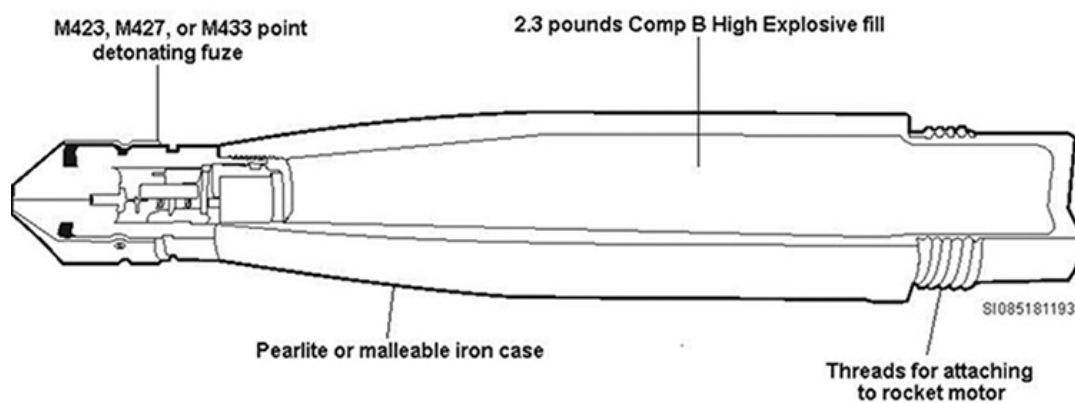
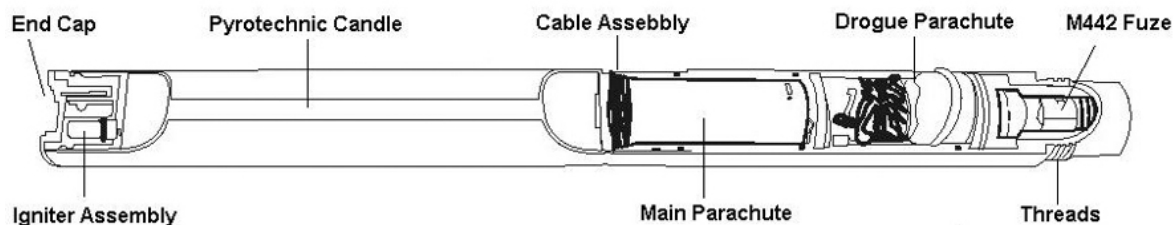

Figure 2-21. 2.75" rocket HE, warhead cutaway.
Figure 2-22. 2.75" rocket, illumination warhead cutaway.
*Classifications by the type of filler* in the rocket warhead include such types as high-explosive (HE), illumination, white phosphorus (WP), and inert. *HE rocket heads* produce blast, fragmentation, or mining effects (fig. 2-21). *Illumination rockets* contain a flare suspended by a parachute to illuminate target areas with either visible light or covertly using an IR flare only visible through compatible night vision systems (fig. 2-22). *WP warheads* contain a filler of white phosphorus and are used for target marking or incendiary effects. *Practice warheads* can be of two configurations: inert rockets that contain inert filler, such as sand or plaster, or those containing a spotting charge to more easily detect impact points. Both types of practice warheads usually have a standard propelling charge in the motor. Drill rockets, intended for training in handling rockets, are completely inert.